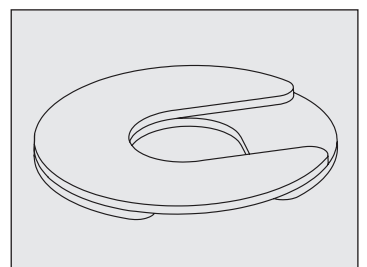

Fig. 10. Install multiple shims with offset slots.
- If more than one shim is used, be sure shim slots are offset. See fig. 10.
- **DO NOT** use more than four (4) shims on a castor.